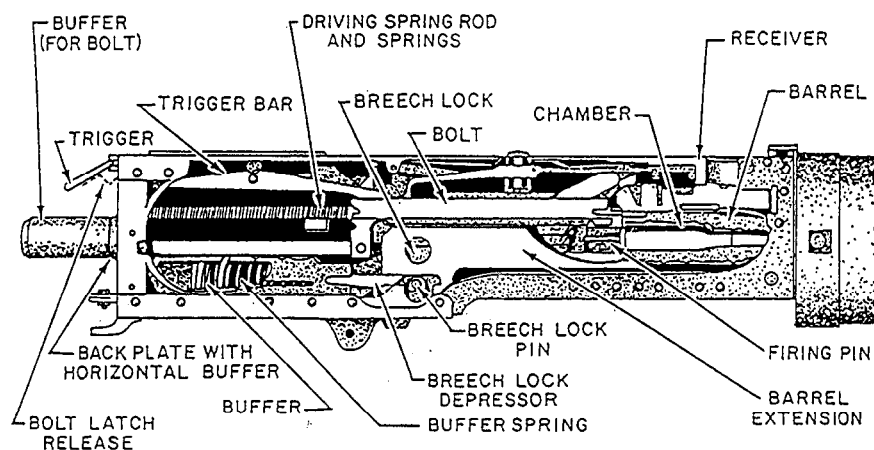

Figure 13-48.—The .50-caliber BMG receiver; cutaway view.
You can follow most of the operating cycle of the gun by referring to figure 13-48. Assume the chamber is loaded, the gun is cocked, and the bolt latch is released. When the trigger is depressed, the trigger bar pivots and releases the cocked firing mechanism. The spring-loaded firing pin strikes the primer and the cartridge fires. Pressure from the expanding gases causes the recoiling parts of the gun to start moving rearward.
4. Insert the GO end of the headspace gauge into the T-slot. The T-slot is between the face of the bolt and the rear of the barrel, as shown in figure 13-48. The GO end of the gauge should enter the T-slot freely up to the center ring of the gauge. Remove the gauge and try to insert the NO-GO end into the T-slot. If the NO-GO end does not enter the slot, headspace distance is correct.